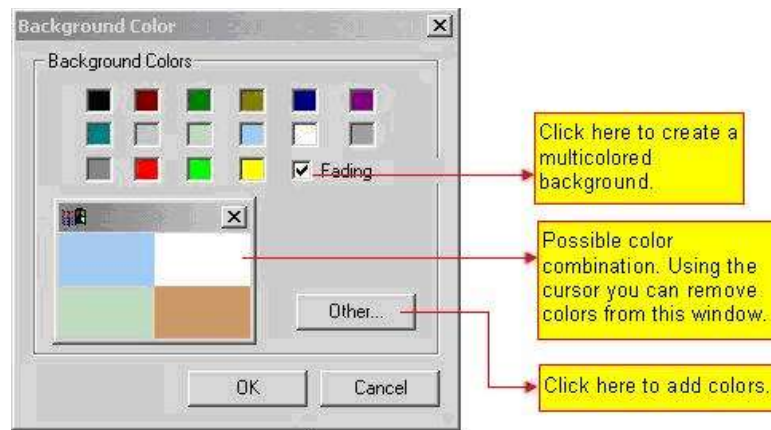

Figure 57: Background Color Selection Window
- If you have selected unicolored, the background appears in the selected color; blue in this example. The multicolored field must not be enabled. Otherwise the multicolored window is used. Please refer to the Figure 57.